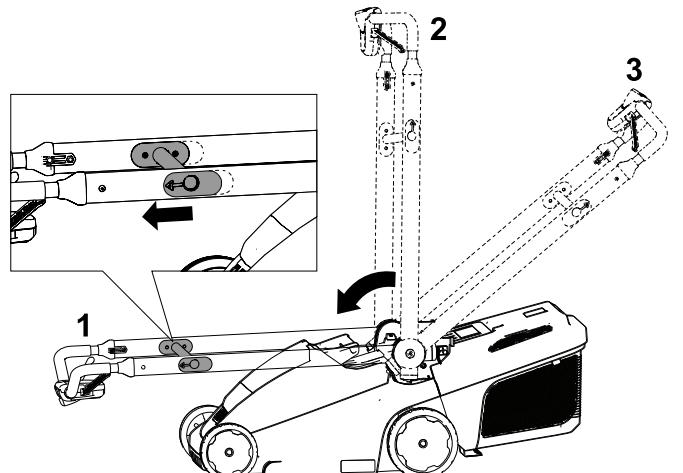

Figure 21
- Pull the handlebar release brace toward the upper handle to release the handle lock (Figure 21).
- Fold the handle halfway forward to the upright position, or fully forward to the vertical-stow position as shown in Figure 21.